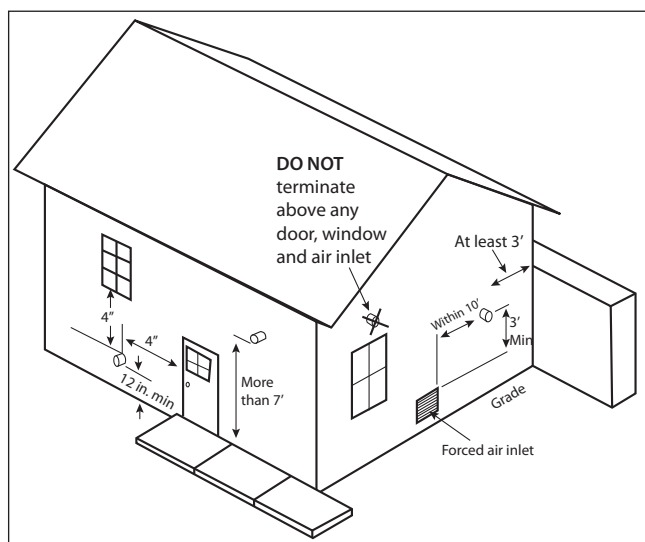

Fig. 16 - Termination Clearances of Category IV System
5. The vent termination must also maintain the following clearances; as shown in *Fig. 16 on page 25*.